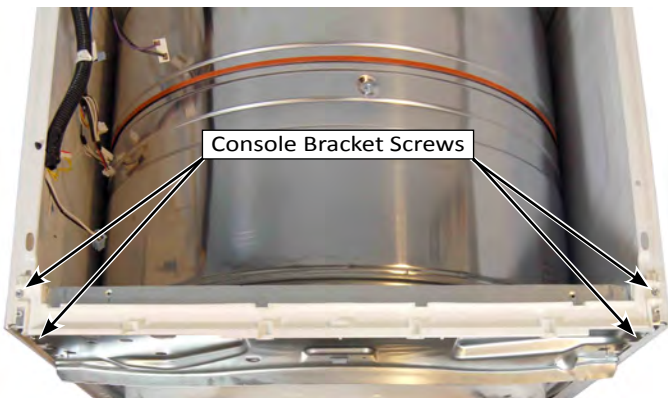

Figure 2
6. Remove the four (4) 1/4" hex-head screws from the console bracket and remove (see Figure 2).